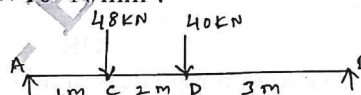

Fig.Q9(b)
- b. Determine the deflection under the loads for beam as shown in the Fig.Q9(b). Take $I = 1.85 \times 10^6$ mm⁴ and $E = 2 \times 10^5$ N/mm².